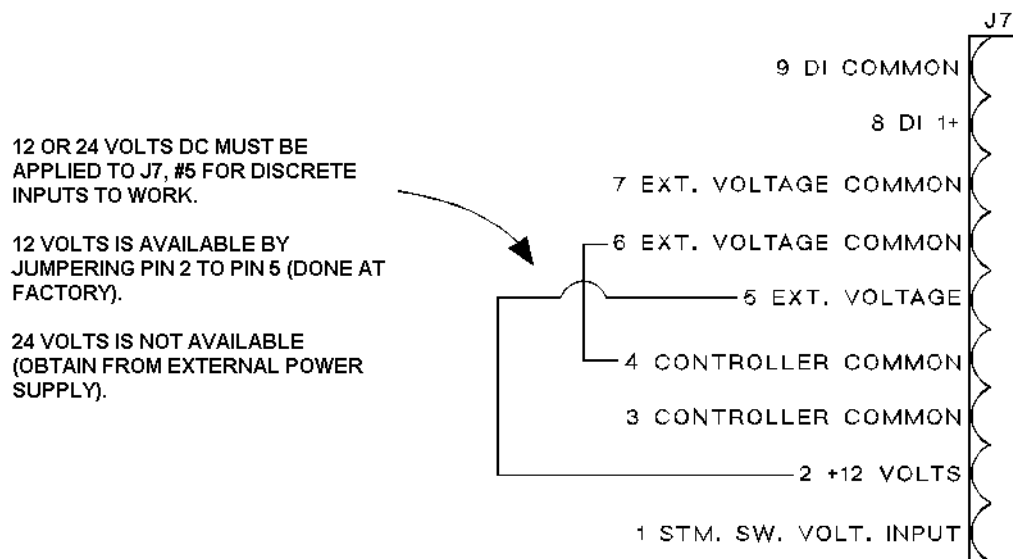

Figure 3-26. Digital Input Jumper Wire Connections
4. To enable digital input signals, also make these "jumper-wire" connections (see Figure 3-26):
- 12 volts DC is available from the GC Controller's power supply by jumpering terminal #2 to terminal #5 (see NOTICE, below, and Figure 3-26).